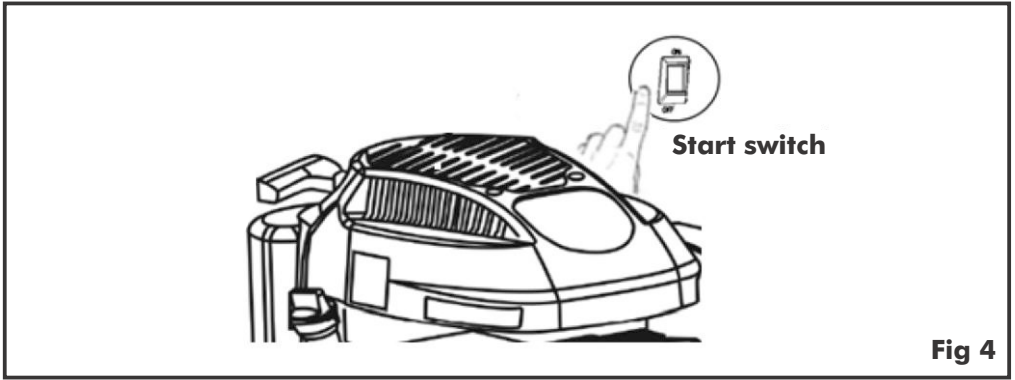

**Fig 2**
- Before adding engine fuel add oil up to the maximum oil level on the dipstick. Do not overfill (Fig 2). Always check the oil level before use and top up if it is below the minimum oil level (Fig 3). When changing the oil remove the oil filler cap/dipstick, the drain bolt and sealing washer and discharge to waste. Ensure to change after the first 5 hours and 50 hours thereafter.